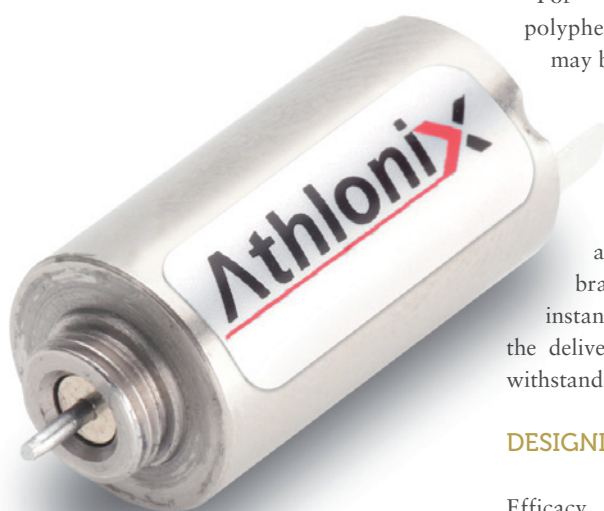

Figure 3: A 10 mm brush DC motor used for drive and delivery systems.
Each drive and delivery system has its own requirements relating to factors such as drug viscosity and method of delivery, so the design is typically customised. An overriding factor across all wearable devices and autoinjectors is the need for a compact form with low weight to achieve patient ergonomic requirements. Direct current (DC) micro-motors are typically optimal for these characteristics, such as having a diameter as small as just 10 mm. However, the gearbox is often the larger component, especially when the design has an integrated output drive mechanism, such as a lead screw or a pump. As a result, the gear system and drive mechanism present the typical opportunity for customisation, and this includes material selection too (Figure 3).